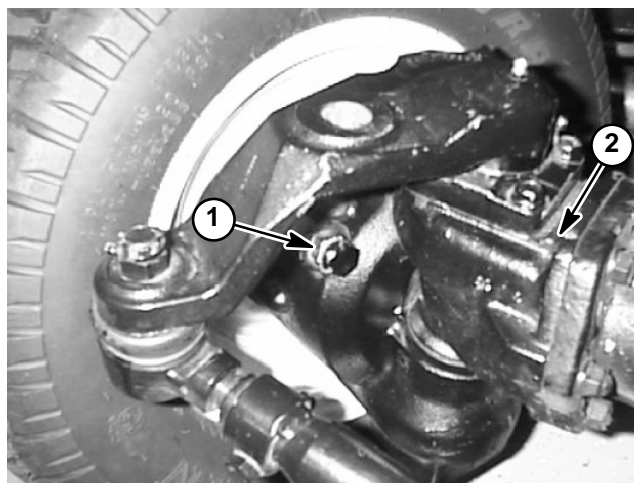

Figure 15
14. Check steering stop bolt adjustment. When the steering cylinder is fully extended (right turn), a gap of 1/16 in. (1.6 mm) should exist between bevel gear case casting and stop bolt on left axle case. Figure 15 shows stop bolt location.